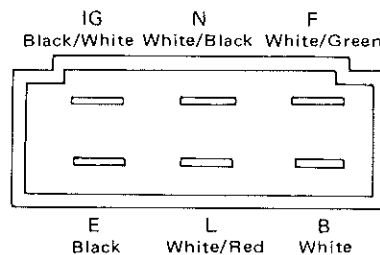

Fig. 11-19
- Open circuit in the line to "N" or "B" terminal of the regulator unit. (Refer to Fig. 11-19).
(2) Continuity test on field coil